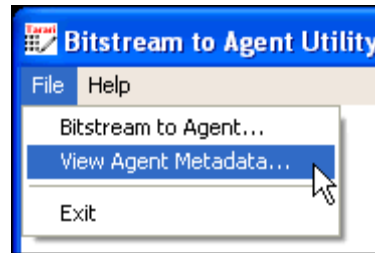

Figure 9: Menu Selection
1. To view an existing Agent's metadata, from the *File* menu, select *View Agent MetaData*, as Figure 9 shows.